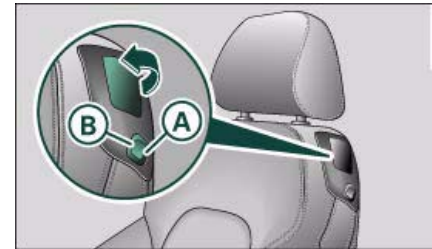

Fig. 72 Driver's seat: easy-entry controls
- Pull up the lever ⇒ fig. 72.